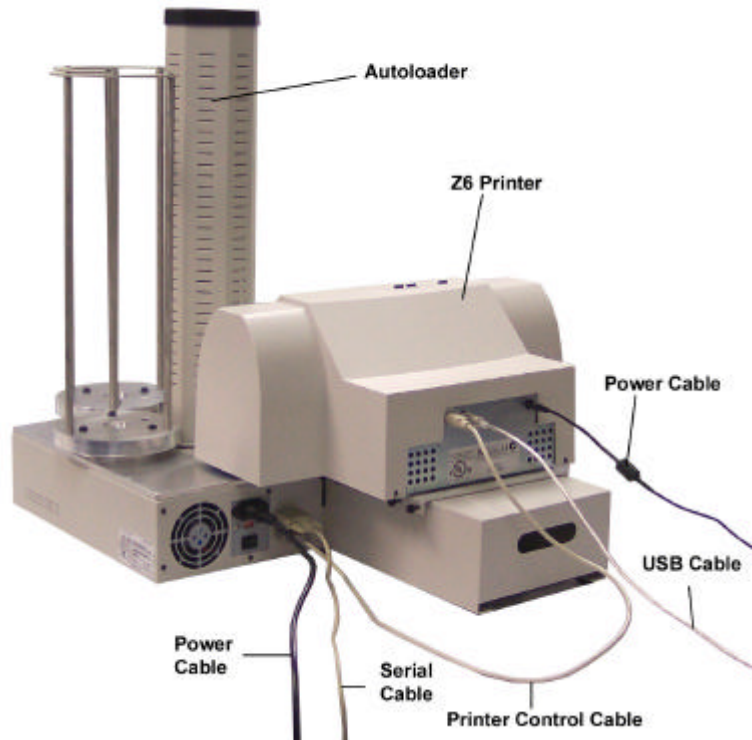

Fig. 4a
- Fig. 4a or 4b for system configured with Rimage Prism Plus printer (page 6)